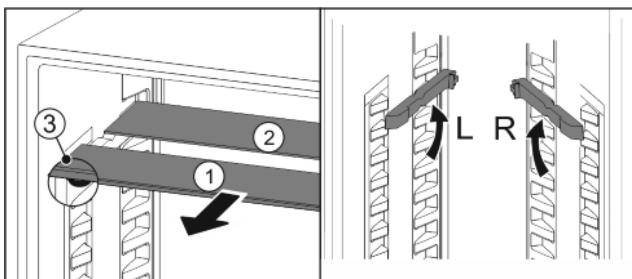

Fig. 22
- ▶ Pull the glass panels out Fig. 22 (1) from the front, one at a time.
- ▶ Glass panel Fig. 22 (1) with pull-out stoppers is at the front.
- ▶ Stoppers are pointing down Fig. 22 (3).